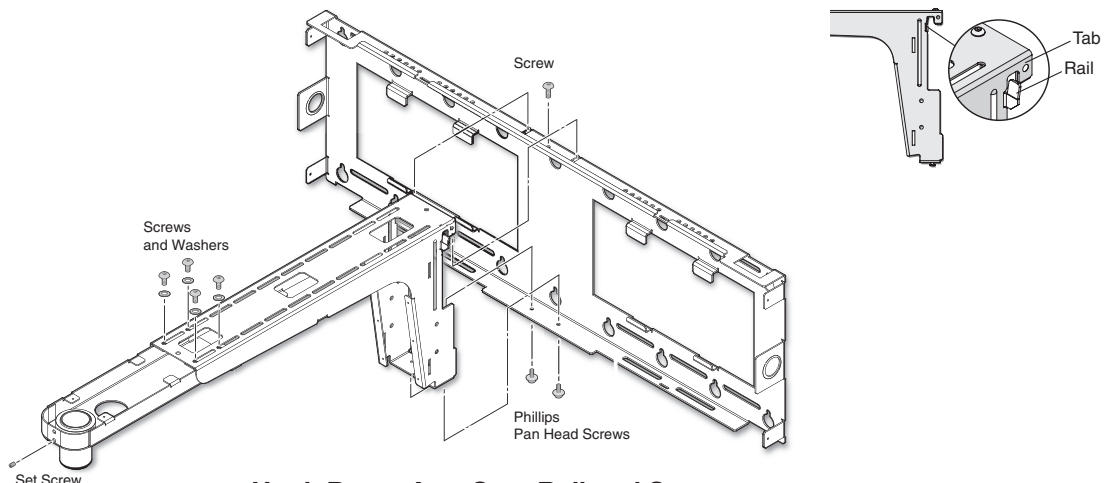

Figure 6. Hook Boom Arm Over Rail and Secure
- a. Hook the boom arm over the top rail on the base plate so that the tab on the arm (see figure 6, inset) is against the rail. Secure the arm at the bottom with the two supplied (10-32 x 3/8 inch) pan head screws and washers, and at the top with the single 1/4-28 x 3/4 inch screw.